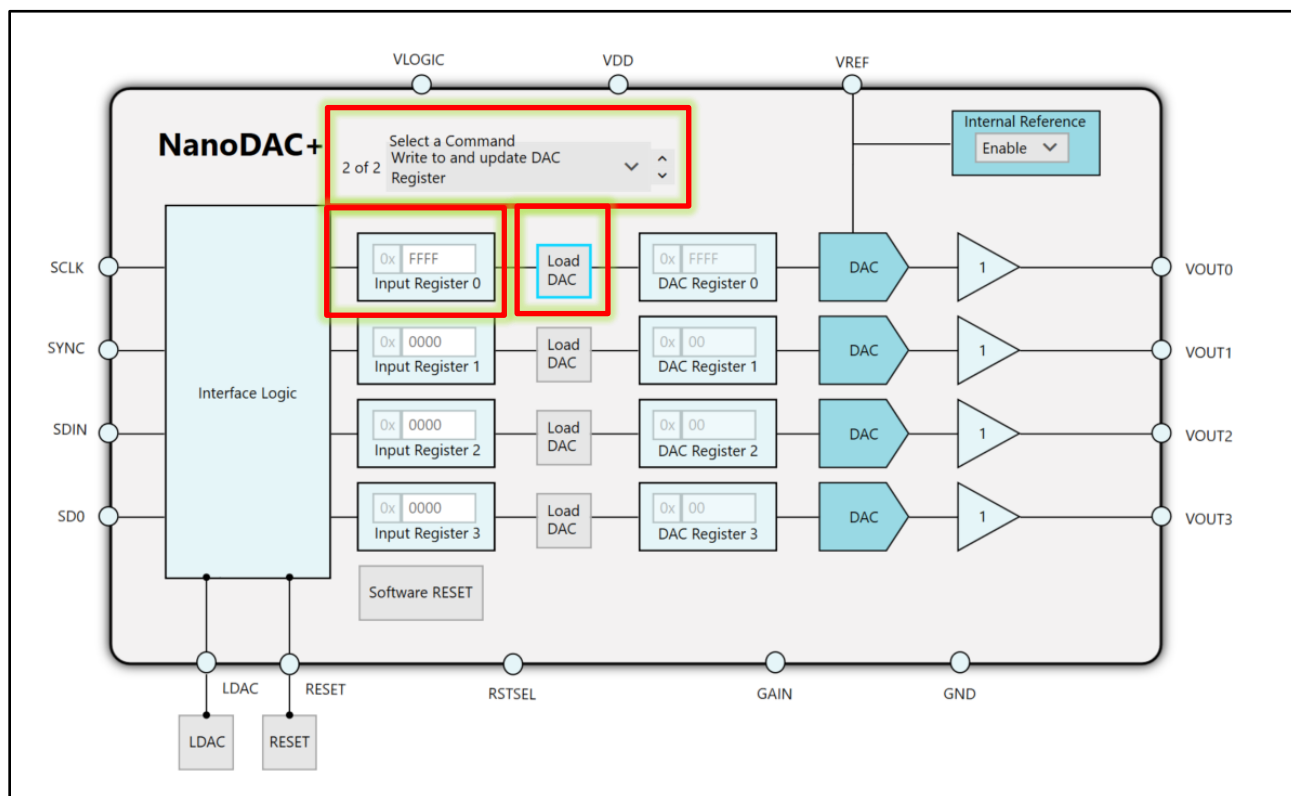

Figure 20
6. Click on the dropdown box labeled "Select a Command" and choose "Write to and update DAC Register" from the options. Please refer to Figure 20 for guidance.